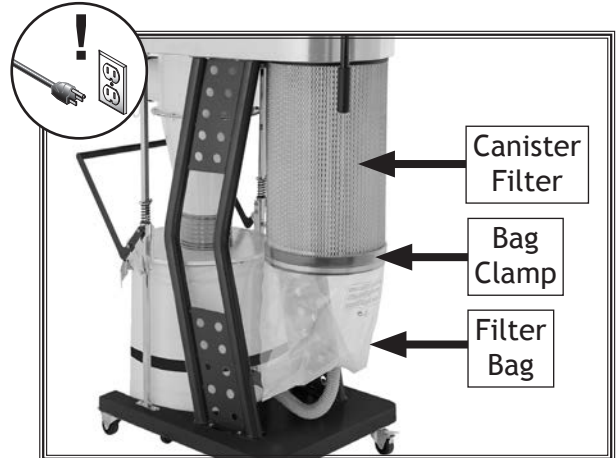

Figure 60. Filter bag components.
2. Release bag clamp, then remove filter bag (see Figure 60). Tie bag closed.